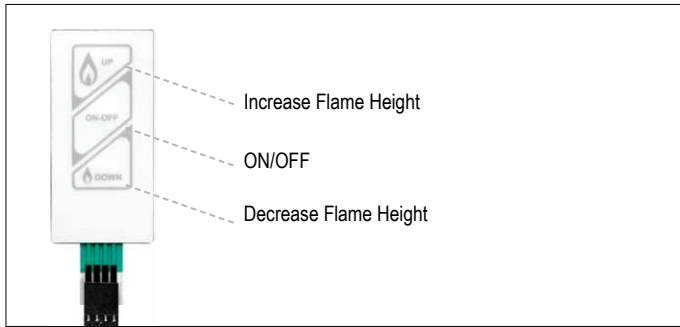

Figure 19: Touchpad / Wall Switch
- Press button **ON-OFF** button (see figure 19) until a short beep confirms the start sequence has begun; release button.